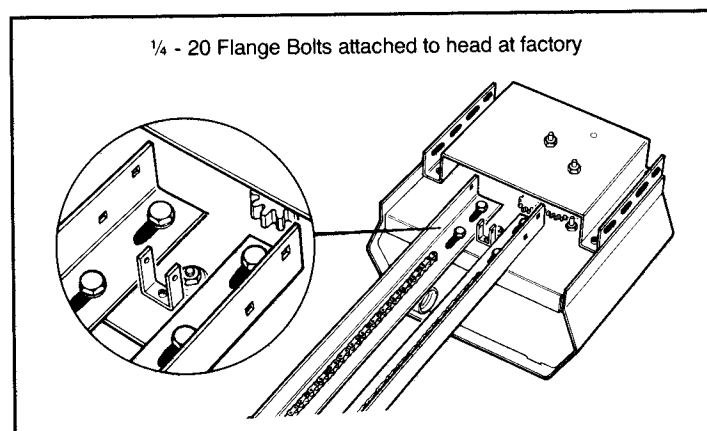

Figure 2
Step 2: Place the operator head on the garage floor and secure the channel assembly to the head (see Figure 2).